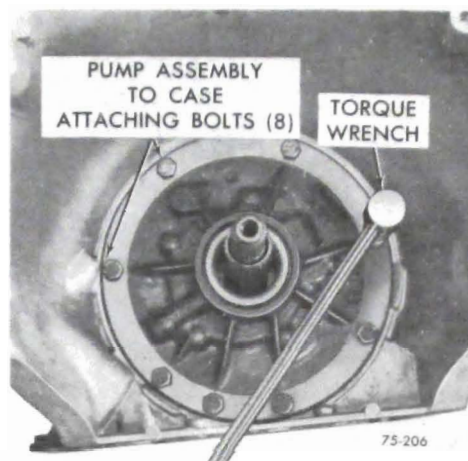

Figure 75-267
1. Install guide pins into case. See Figure 75-267.
3. Install pump assembly into case. Install attaching bolts with new washer type seals. Torque to 20 lb.ft. See Figure 75-267.